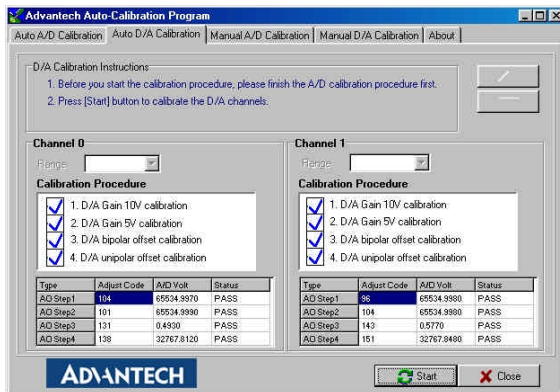

Fig. 5-12: D/A Calibration is finished
Step 12: Auto-calibration is finished (Fig. 5-12)